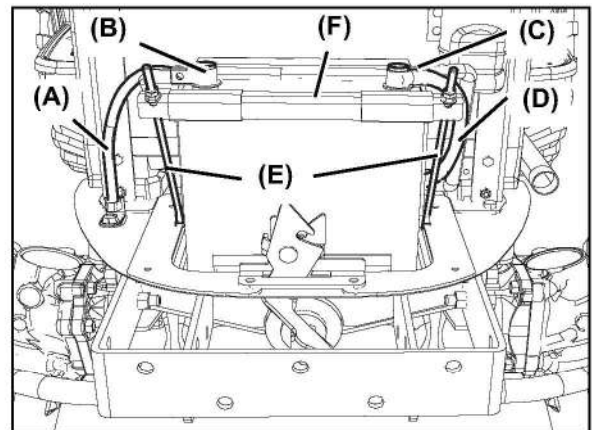

Fig 15-2
6. Disconnect the negative (-) battery terminal (Fig 15-2, B).
7. Remove the nuts, washer faced nuts, the threaded rods (Fig 15-2, E) and the bracket (Fig 15-2, F).
9. Pull up the positive (+) terminal red cover (Fig 15-2, C).